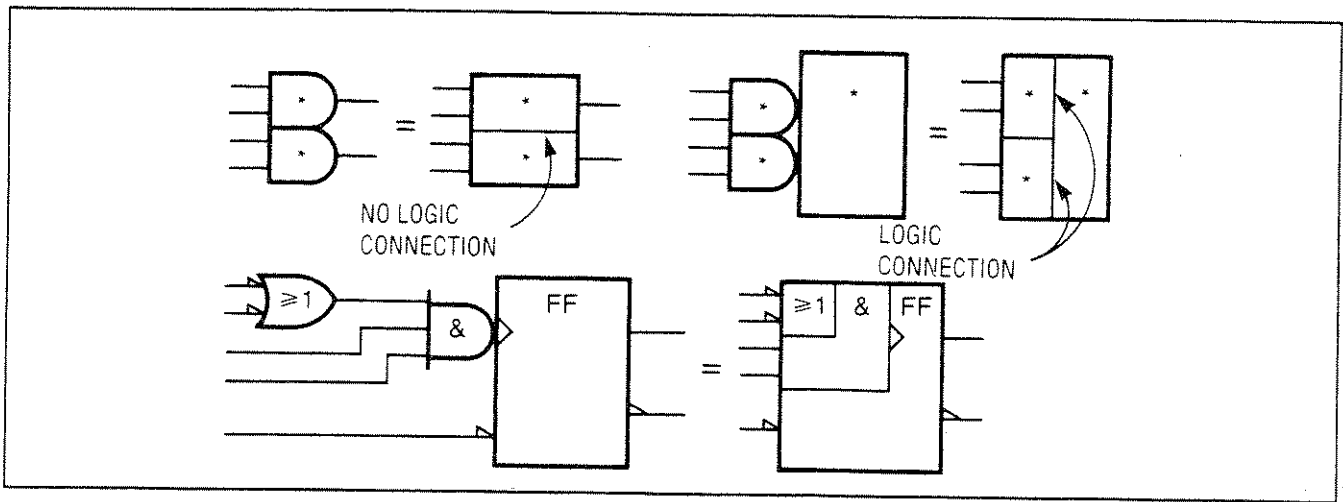

Figure 8-91. Contiguous Blocks
**Contiguous Blocks.** Two symbols may share a common boundary, parallel or perpendicular to the direction of the signal flow. Note that in the examples shown in Figure 8-91, there is generally no logic connection across a horizontal line, but there is always an implied logic connection across a vertical line. Notable exceptions to this rule are the horizontal lines beneath control blocks and between sections of shift registers and counters (dividers).